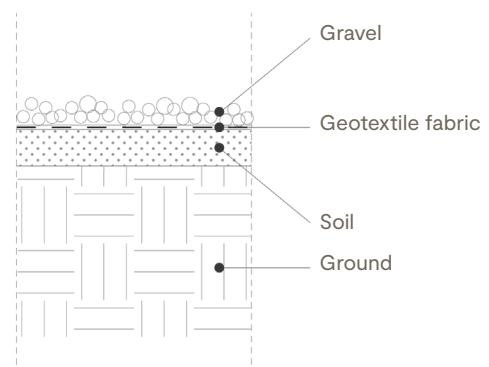

Fig. 3
- Lay geotextile fabric, secure it, and cover with a 3–5 cm layer of fine gravel to improve drainage and prevent plant growth (see Fig. 3).